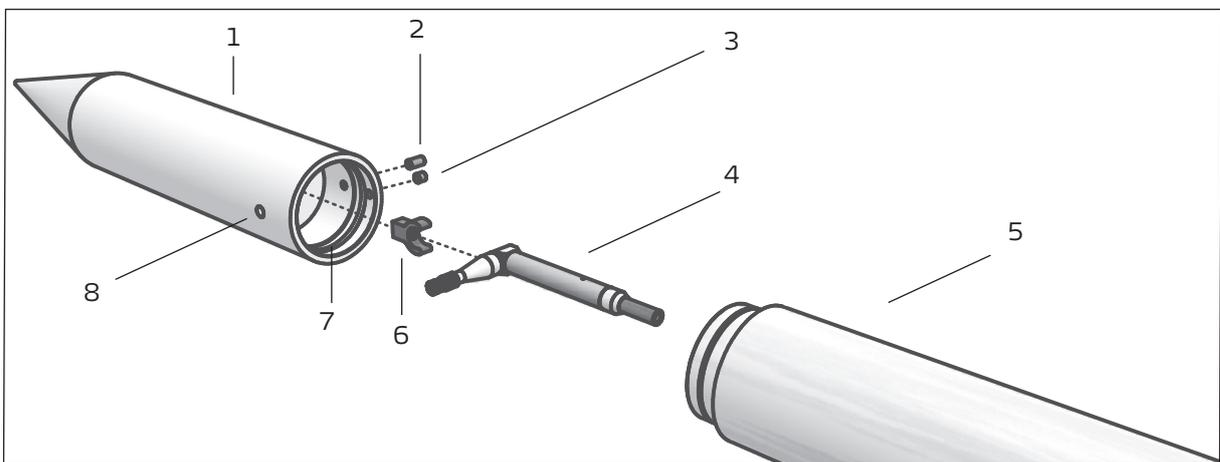

Fig. 5. Exploded view of the blast probe.
The main user-accessible parts of the blast probe are shown in Fig. 5. The two tube parts are held in place with a short M2 hex screw (item 3) and an O-ring in a recess inside the front part (Item 1).
The parts of the probe as shown in Fig. 5 are